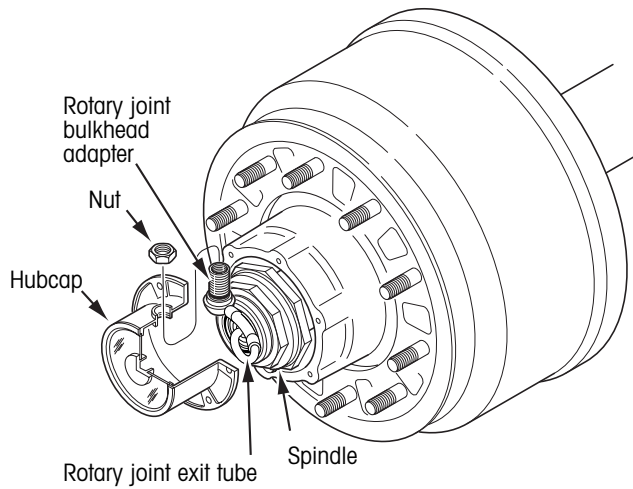

Figure 16. Hubcap to bulkhead adapter connection
- From the inside, insert the bulkhead adapter through the hole in the hubcap labeled "Air". Attach the jam nut and hand tighten (figure 16).